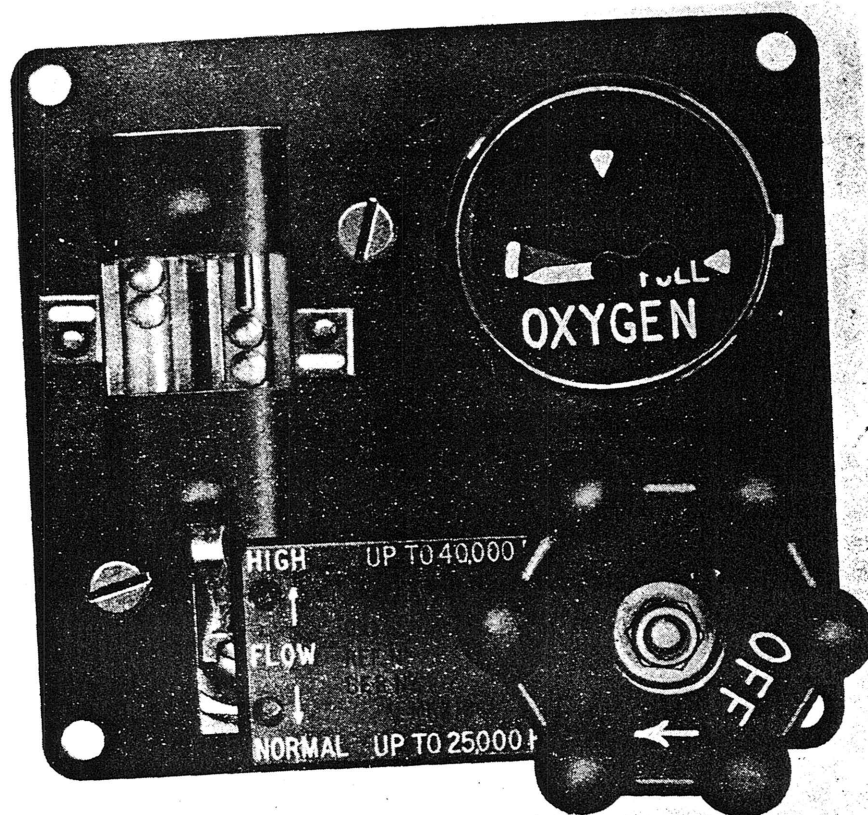
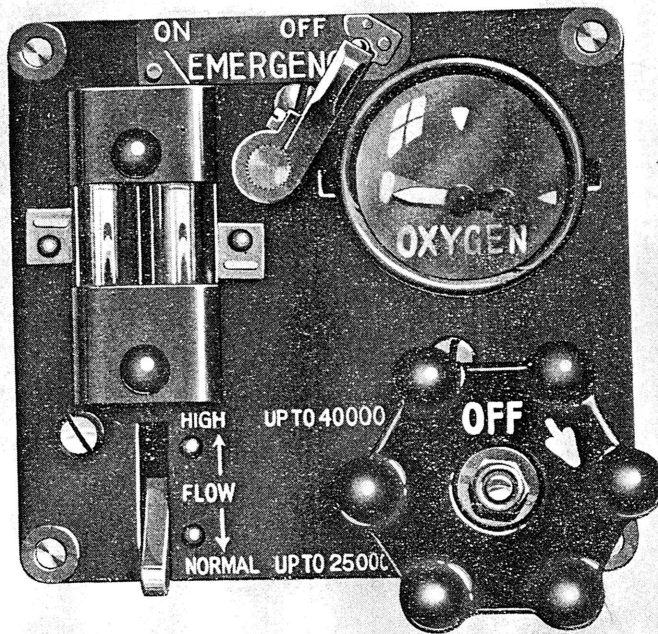

Fig. 1. Mk. 11B regulator, front view
Fig. 3. Mk. IIC and IID regulators, front view
2. The front and rear view of a Mk. 11B regulator is shown in fig. 1 and 2. The Mk. 11A and 11B regulators are for use on single-seater and two-seater aircraft, respectively, to provide two alternative flows of oxygen to the crew, a normal flow for use at heights up to 25,000 feet, and a high flow for use in action and at heights up to 40,000 feet. The Mk. 11C regulator, illustrated in fig. 3, is the same as the Mk. 11A except for the addition of the emergency flow valve. This valve provides an increased oxygen flow for use in an emergency, and the flow is additional to